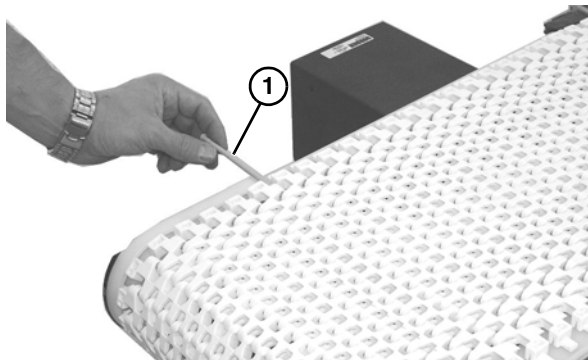

Figure 17
7. Insert the belt rod (Figure 17, item 1).